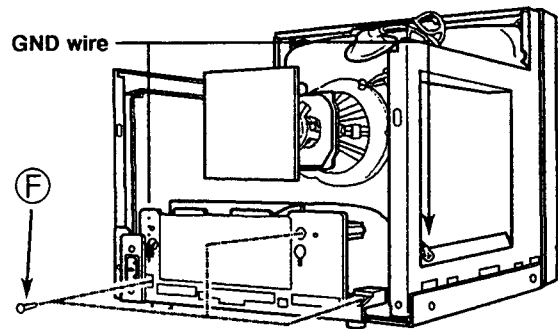

Fig. 3
- (1) Remove the three screws ⑤ in Fig. 3.
- (2) Remove the GND wire.
- (3) When the two hooks between the Main and Input PCBs are removed, the Input PCB will be dismounted.
- (4) Dismount the connectors, etc. as required.